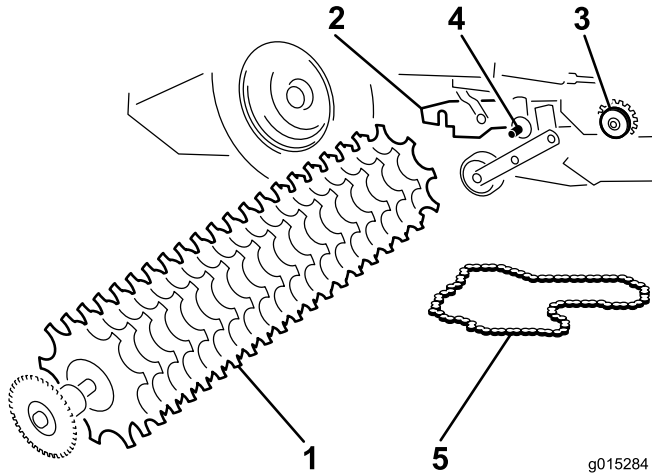

Figure 32
2. Remove the bolt and washer securing the jackshaft pulley to the jackshaft and remove the pulley (Figure 32).